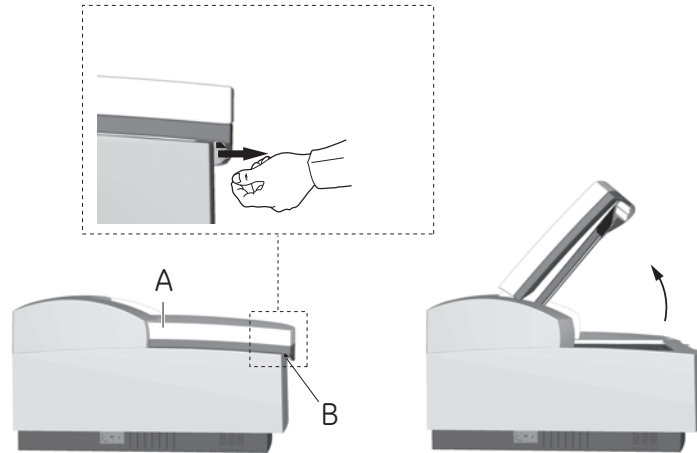

Figure 5-1. Opening sample lid.
- 1 Grasp the lid release (Fig 5-1 B) under the center front of the sample lid (Figure 5-1 A) and pull the release forward until the lid opens. Raise the lid all the way.